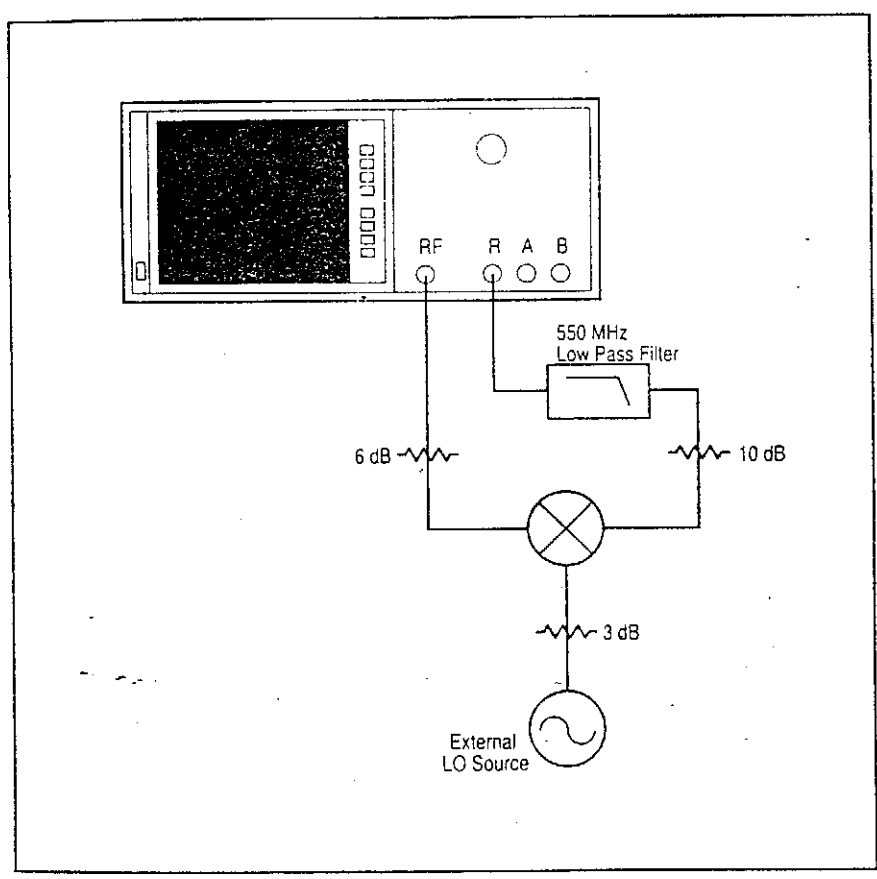

Figure 9. Connection diagram for a swept IF conversion loss measurement.
Next reconnect the setup as shown in Figure 9. Insert the device under test, i.e. the C61 unit, in between the 20dB pad and the 10dB pad before the lowpass filter. Apply DC bias, and LO carrier as listed in Table 2 and take plots for each setting. You will require to follow the steps listed out in the measurement procedure repeatedly for each LO setting. The final plots should resemble those shown in Test Plot 1.
1. Connect the instruments as shown in figure 9.